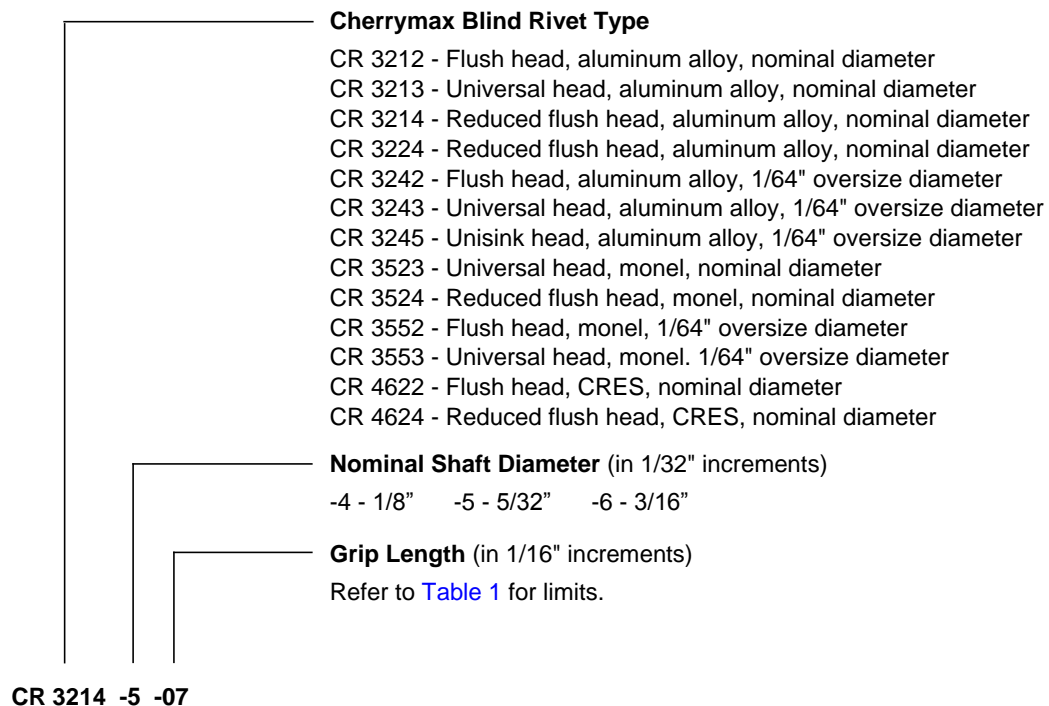
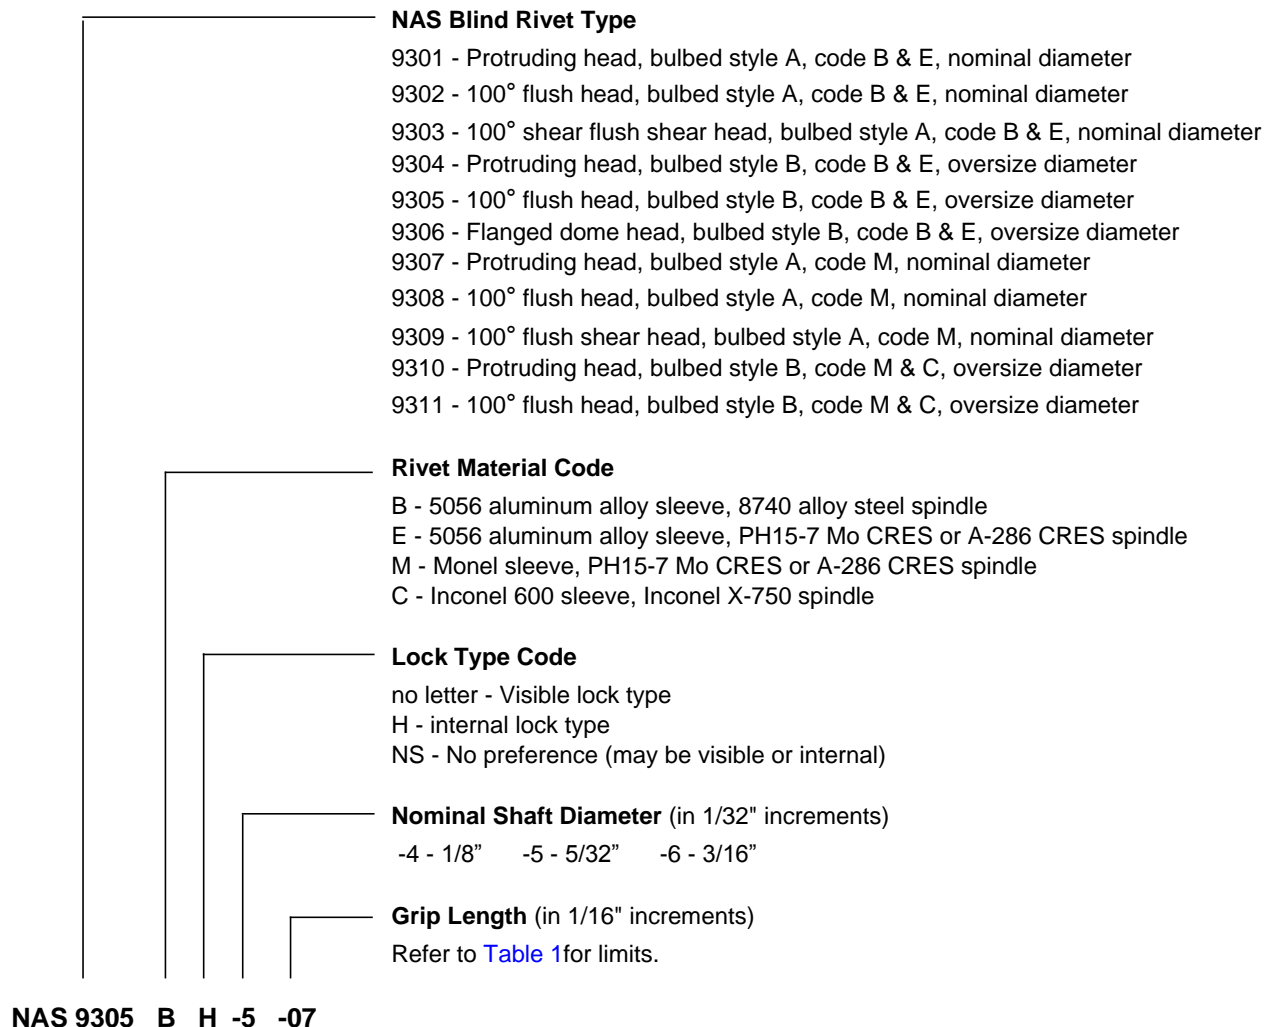

Figure 1. Breakdown of Cherrymax Blind Rivet Part Number
Figure 2. NAS Blind Rivet Part Number Breakdown
4.1.2 Blind rivets as specified on the engineering drawing or EO 7336. Refer to Figure 1, Figure 2 and Figure 3 for a breakdown of CherryMax, NAS and M7885 blind rivet part numbers. CherryMax blind rivets may be used as replacements for Cherry and Cherrylock blind rivets as specified in Table 1. Certain CherryMax blind rivets are qualified to MIL-R-7885 and may be used interchangeably with certain M7885 blind rivets: refer to Table 3 for a cross reference of CherryMax and M7885 blind rivets which may be used interchangeably. Refer to Figure 4 for a general description of blind rivets.